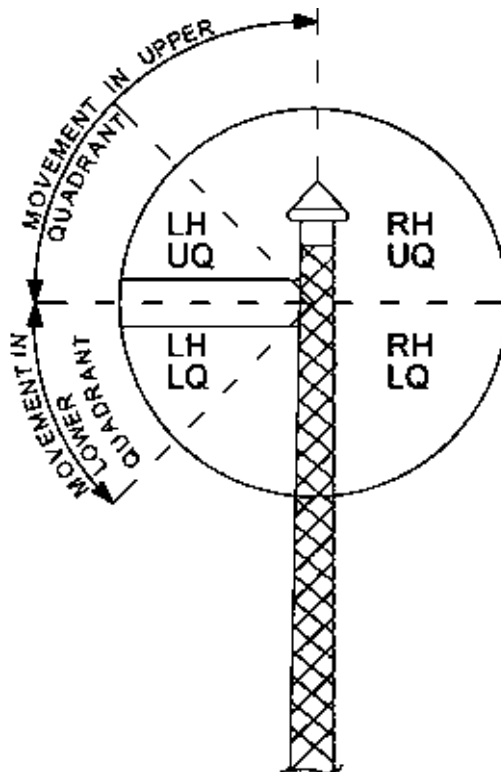

Fig. 4.4 Use of Quadrant
4.4 Method (a) was adopted in the early days and subsequently given up as the absence of arm due to some reason other than it's entering the slot in the post conveyed wrong information. Methods (b) and (c) above could be on the Right hand side or on the left hand side of a Quadrant as shown below in (Fig. 4.4). Fixed Signals can be operated on any one of the four quadrants of a circle as shown. Since 'Left hand' rule is followed in India, the "lower quadrant" and "Upper quadrant" of the left hand side is utilised in Indian Railways. Based on this principle, signals are also generally located on the left hand side of the track.